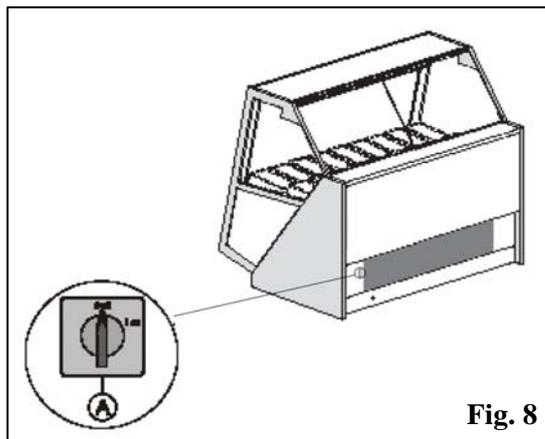

Fig. 8
- 2) Activate the display cabinet master switch, which is found on the rear protection panel. To introduce the electric power supply to the display cabinet, place the master switch at position "1" (fig. 8 pos. A).
To stop the plant act on switch (A), which is found behind the rear protection panel. Position the master switch at “0” (fig. 8 pos. A) disconnecting the display cabinet power supply.
For optimal functioning of the display cabinet, it is recommended to perform prolonged defrosting, shutting the display cabinet down for at least 12 hours, by deactivating the electric power supply switch (A) positioned on the rear protection panel of the display cabinet (fig. 8).